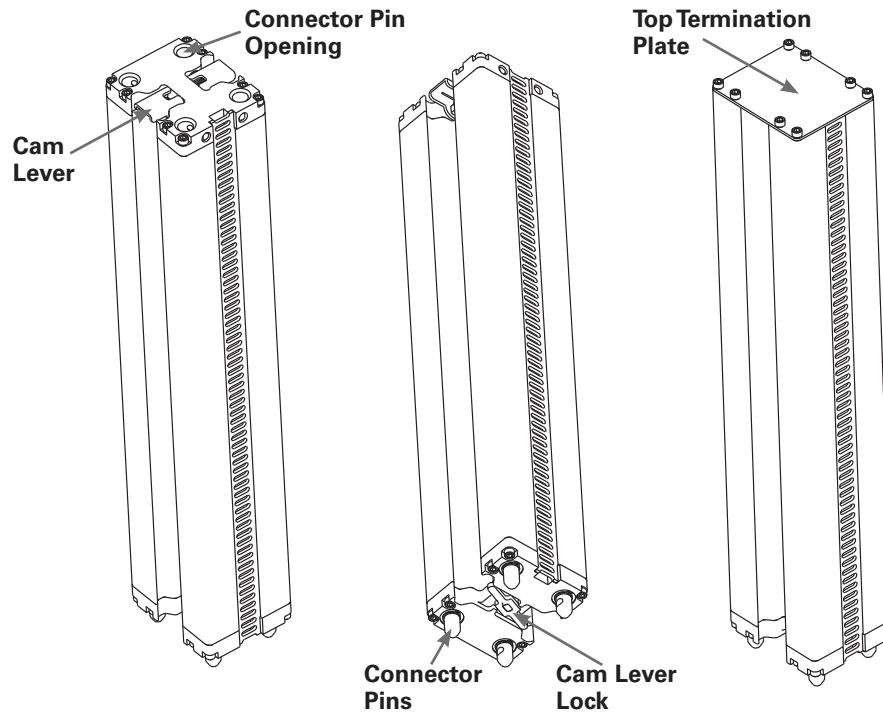

Figure 2-7 - Mast Connectors
4. **Mast Connectors** - Check to be sure the components of the Mast Connectors are present, undamaged, clear of debris and in good working condition. (See Figure 2-7) **NOTE:** *Be sure the top mast Termination Plate is present, undamaged and securely attached to the mast section.*